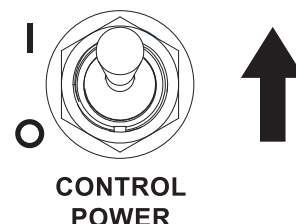

Figure 3-11. Controller Power ON (I)
- See Figure 3-11. Switch controller power to ON (I).